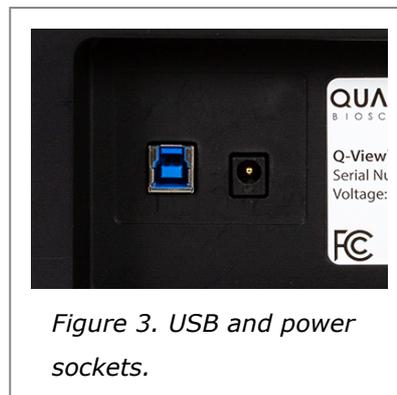

Figure 3. USB and power sockets.
2. Plug the power cord into the back of the imager (Figure 3) and into a surge protector.
3. Plug the USB cord into the back of the imager (Figure 3) and into the computer. For the Q-View Imager Pro and the Q-View Imager Plus, ensure the power switch is in the on position. The Q-View Imager Plus requires USB 3.0 or greater.